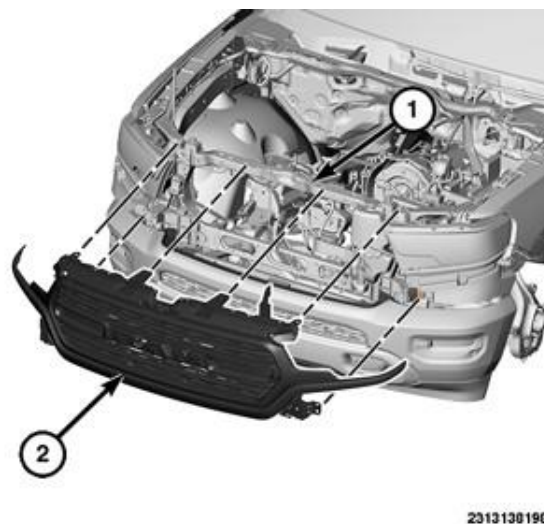

Figure C12 – Grille Assembly
16. Remove the grille assembly from the vehicle (Figure C12).
26. Install the grille assembly to the vehicle (Figure C12).